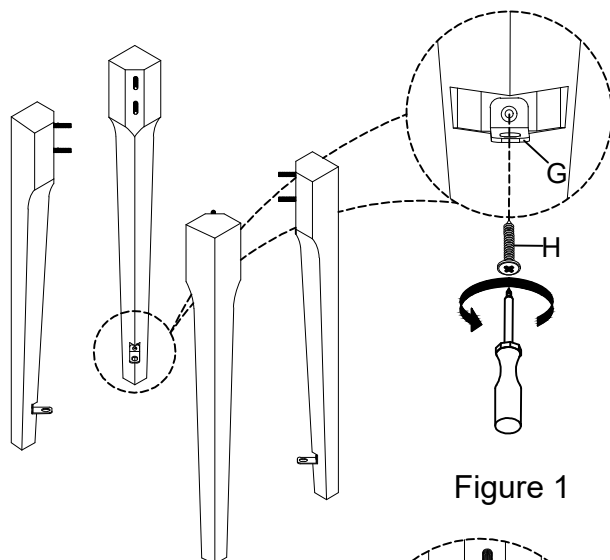

Figure 1
1. Lay the top on a clean and padded surface to prevent scratches and attach brackets (G) to legs table then tightened Screw (H) by a phillips head screwdriver (not provided). (See Figure 1).